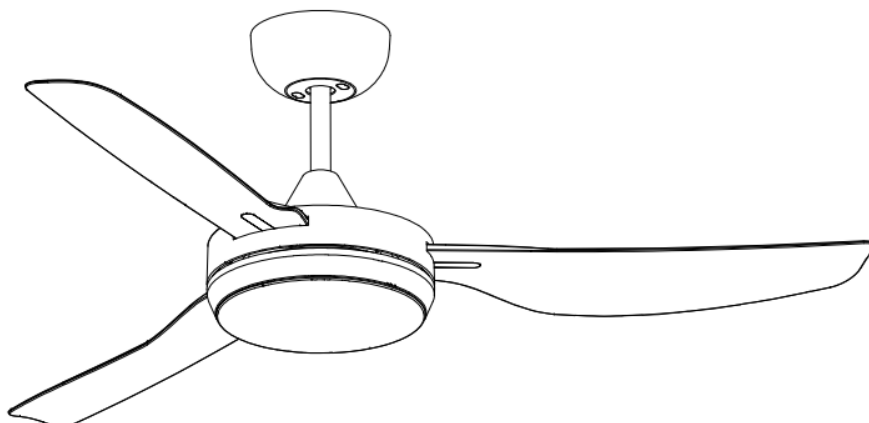

Fig. 6
3. Repeat this process for the remaining blades. (Fig. 6)